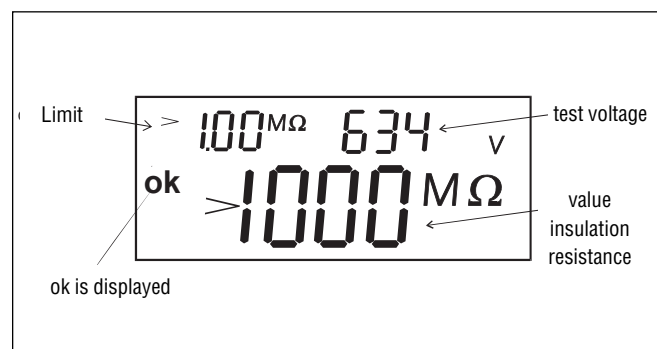

Fig.7.15.
- Keep key START/STOP at COMMANDER 1 pressed until stabilisation of measurement result displayed. ACTIVE lamp on the appliance and on COMMANDER 1 starts lighting and indicates active measurement. The last measurement value is displayed, see Fig. 7.15.
- Keep key START/STOP at COMMANDER 2 pressed until stabilisation of measurement result displayed. ACTIVE lamps on appliance and on COMMANDER 2 start lighting and indicate active measurement. Last measurement value is displayed, see Fig. 7.15.